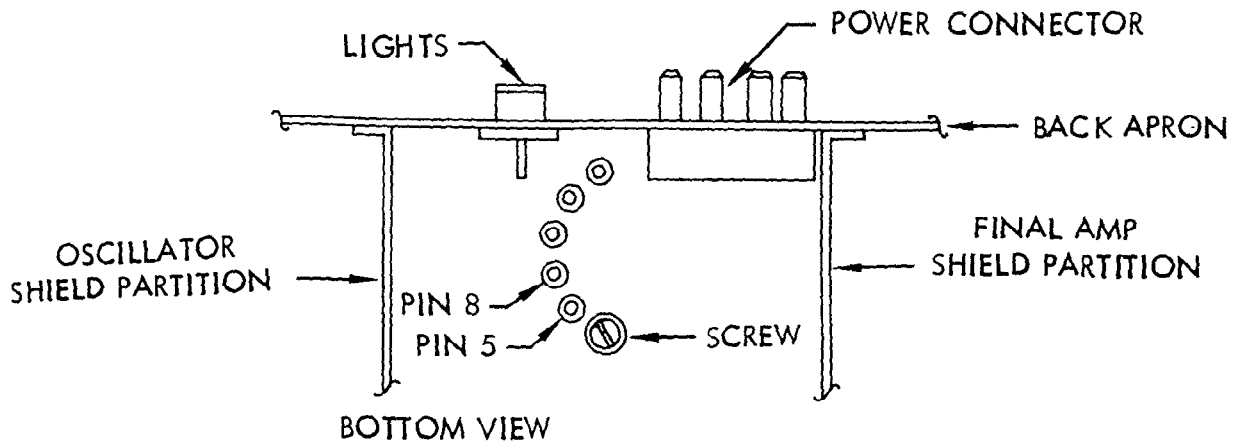

FIGURE 2.2.2-1
- () Refer to Figure 2.2.2-1 of this manual and Figure 11 of the TR-3 manual or Figure 14 of the TR-4 manual and locate the underchassis feed through connections of relay K1 as shown in Figure 2.2.2-1.
- () If you are not using the external control function of relay K1, connect a short piece of hook-up wire from pin 5 of Figure 2.2.2-1 and solder to chassis ground.
- () Connect the MAGNUM SIX lead labeled "R" to pin 8 of Figure 2.2.2-1.